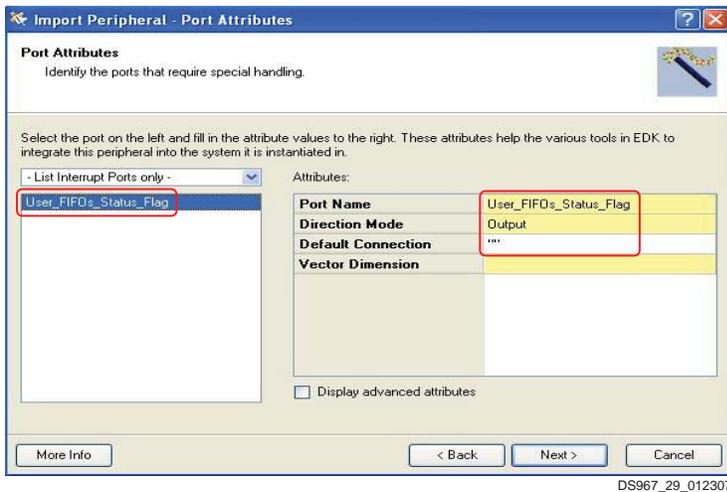

Figure 29: Defining the Advanced Attributes of the User Ports
- In the Port Attributes window, make the selections shown in Figure 29 to identify the ports that require special handling. Set the attributes to the user ports and user interrupts ports, if any. Because in this custom IP only the interrupt pin comes out from the user logic side, accept the default values.